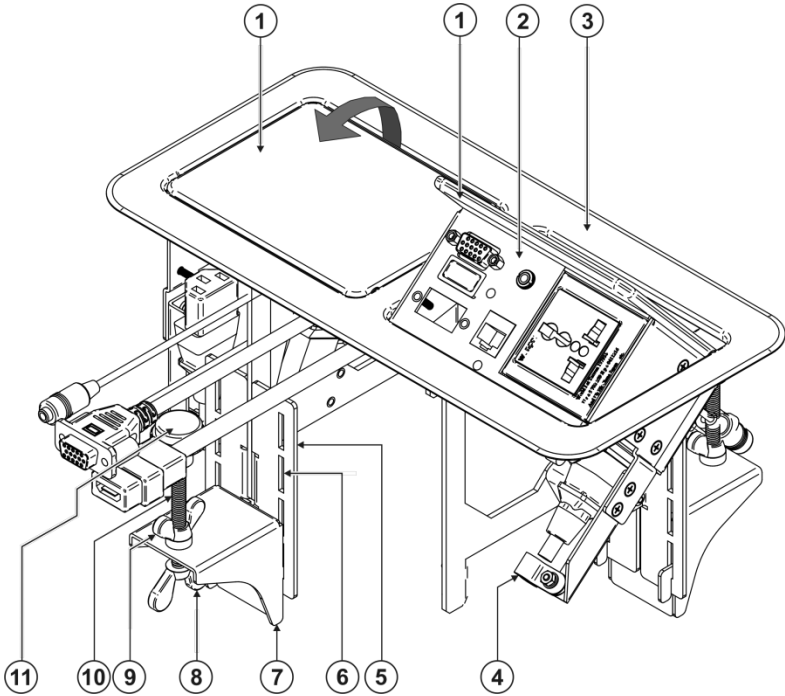
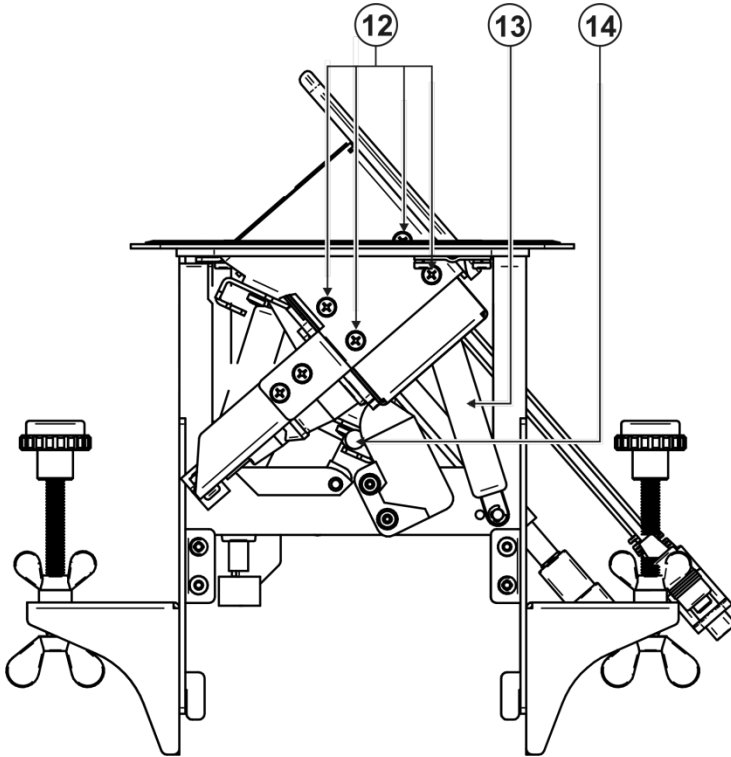

Figure 2: Defining the Parts of the TDPB-2V1AD Dual square table box with HDMI, VGA, 3.5mm audio, and RJ45 inputs
Figure 3: TDPB-2V1AD Dual square table box with HDMI, VGA, 3.5mm audio, and RJ45 inputs Side View
| Figure 2: Defining the Parts of the TDPB-2V1AD Dual square table box with HDMI, VGA, 3.5mm audio, and RJ45 inputs | 6 |
| Figure 3: TDPB-2V1AD Dual square table box with HDMI, VGA, 3.5mm audio, and RJ45 inputs Side View | 7 |
Figure 2 and Figure 3 define the TDPB-2V1AD.
Note that both pop-up units are identical so Figure 2 and Figure 3, as well as the following tables apply to each one of them separately.
6. Insert the power cord into the power connector lock and tighten the screw (see Figure 2, item 12) to secure the power cable.